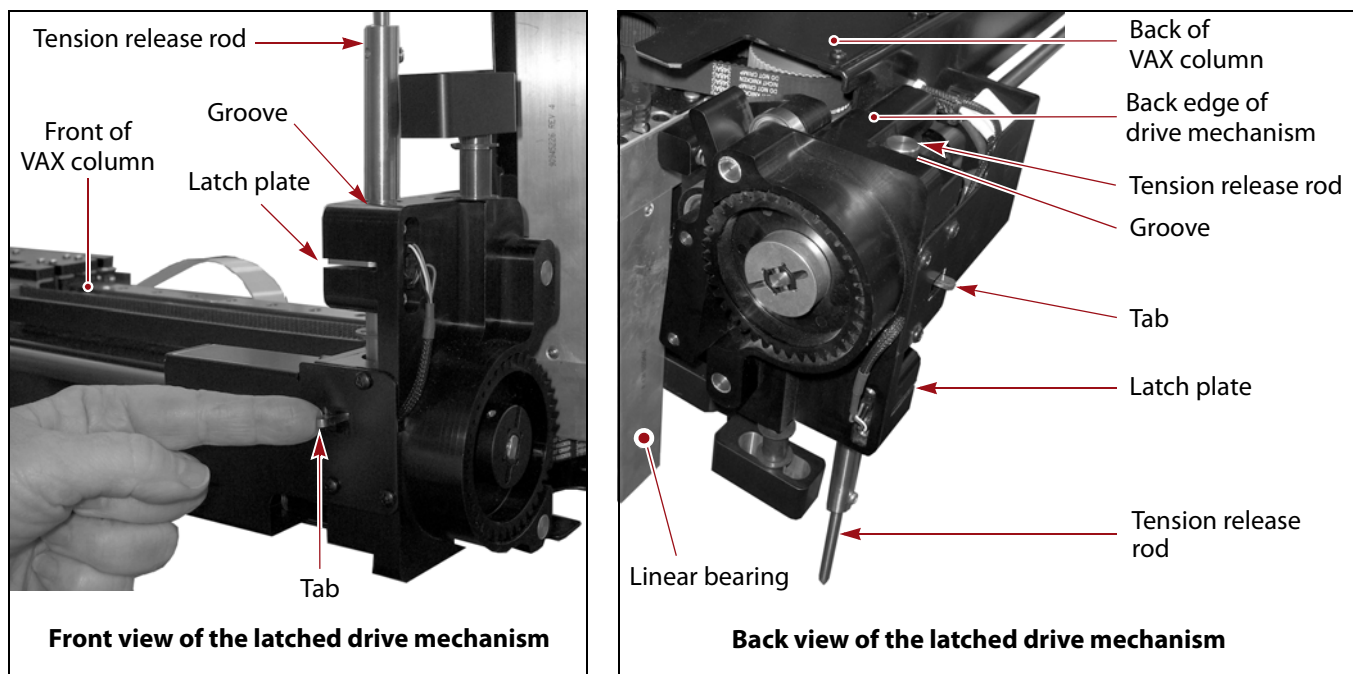

Figure 61 Confirm that the drive mechanism is latched (bottom drive mechanism shown).
5. Examine the top and bottom drive mechanisms to confirm that they are latched closed (see Figure 61 on page 42).